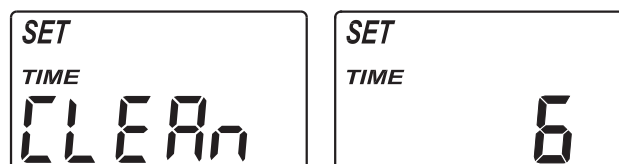

FIG. 26
2. Press the SELECT button twice to display the "Set Clean Time" screen (See Figure 26).